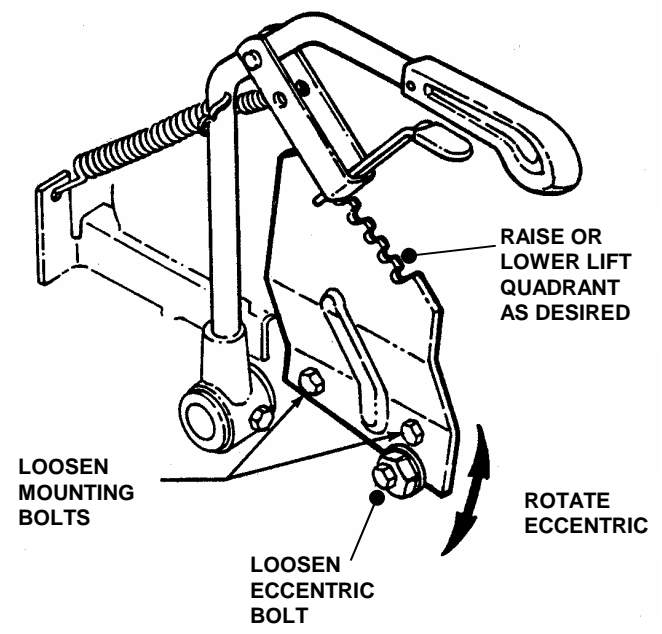

FIGURE 4.5
3. Loosen the two lift quadrant mounting bolts and eccentric bolt. See Figure 4.5.